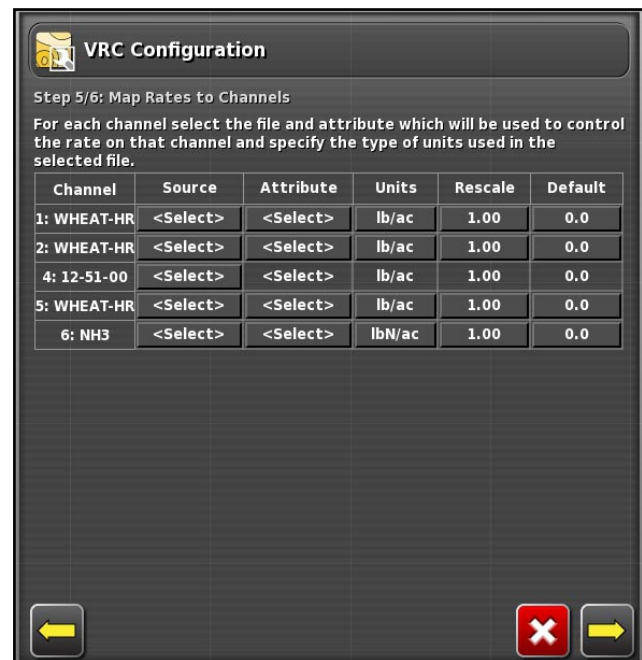

Figure 9.29 - VRC Wizard - Step 5
3. Refer to Figure 9.29. When the prescription map is loaded, assign file to each tank that will be using VRC application. Also pick the attribute/layer for each tank, which should be clear if the creator of the prescription file named the layers appropriately. Select No VRC for non-VRC tanks.